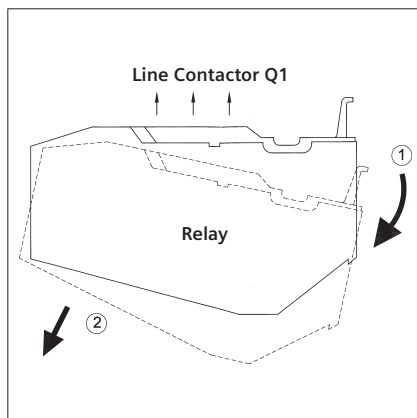

Fig. 7 : Relay Removal
3. Follow instructions given in Fig. 7 for removal of relay.
- Replacement of Overload Relay (Refer Fig. 7 & 8) :